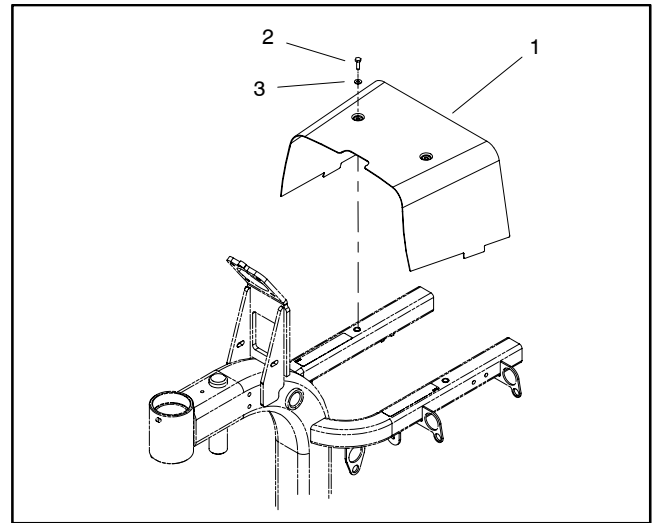

Figure 33
2. Remove two (2) cap screws and flat washers that secure center shroud to machine (Fig. 33). Lift center shroud from frame.
2. Secure oil cooler to fan shroud with two (2) cap screws, flat washers and rubber clamps.
4. Secure fan shroud to frame with four (4) cap screws and flange nuts.
7. Position center shroud to frame and secure with two (2) cap screws and flat washers (Fig. 33).